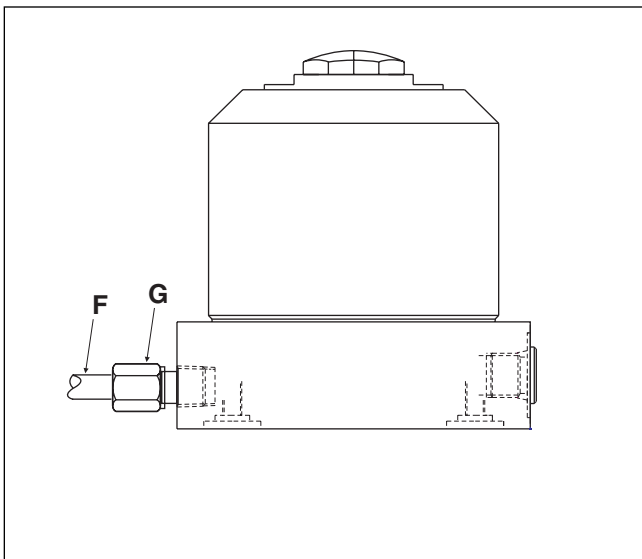

Figure 2 - Venting through side port (using additional tubing and fitting)
1. If the breather fitting (item A) is subject to a coolant flood condition, the breather fitting should be removed. Use tubing and a threaded connector to vent to a clean, remote area of the fixture (see figure 2).